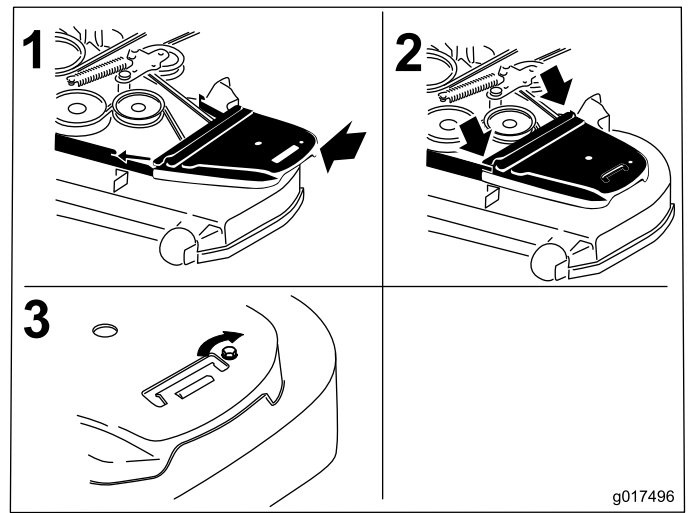

Figure 59
12. Install the belt covers (Figure 59).